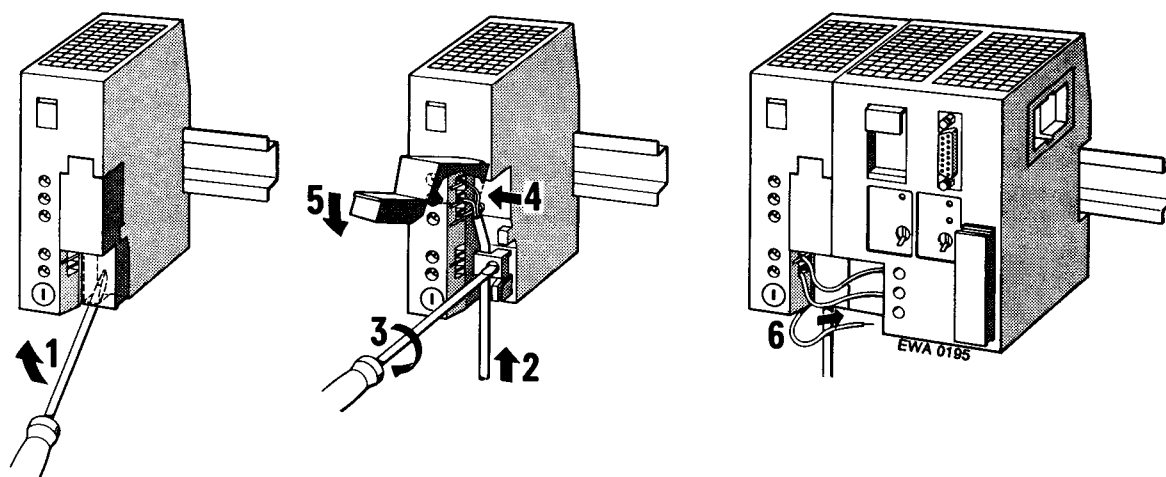

Figure 3-11. Connecting a Power Supply Module and a CPU
3. Connect the supply cable to terminals L1, N and $\perp$ (see Figure 3-11).